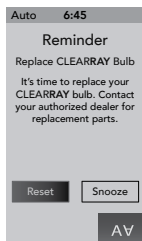

Figure 15.0c
22. ClearRay Replacement Reminder: This message will appear when the ClearRay bulb reminder time has expired (Figure 15.0c). The ClearRay bulb must be replaced.